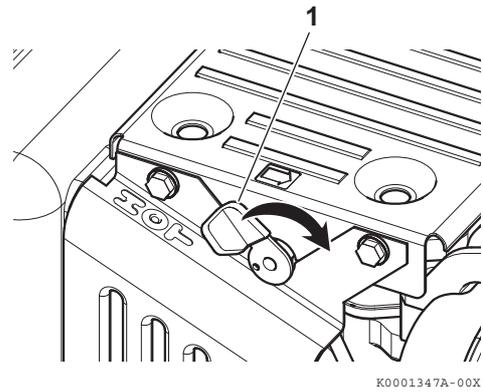

Figure 6
4. Push the decompression lever (**Figure 6, (1)**) down and release it. The decompression lever will automatically return to the original position when the engine starts. Some L-N model engines have an automatic, internal compression release mechanism and do not have the external compression release lever. Refer to the specific instructions for your driven machine.